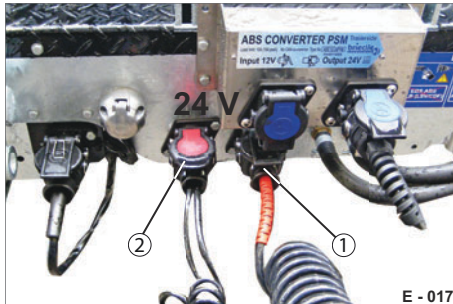

Fig. 12 Connection for 24 V operation
- Plug the ABS cable (Fig. 12/1) from the towing vehicle into the socket (Fig. 11/3) for the ABS connection.
- Plug the electrical cable (Fig. 12/2) from the towing vehicle into the socket (Fig. 11/4) for the electrical connection.